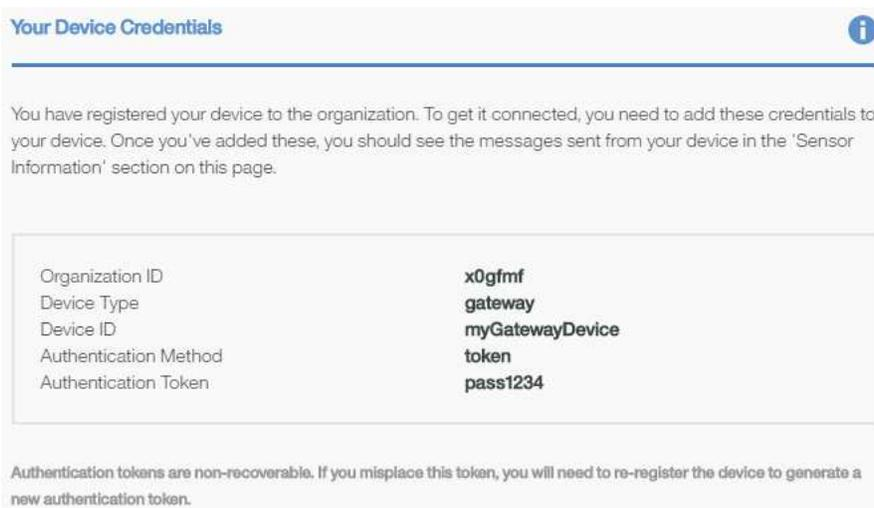

Figure 25. Gateway Device Credentials
13. Use the *Summary* view to verify the **Device ID** and **Authentication Token**. Use the **Back** button to edit any items. When you are finished, click **Add**. You should now see your device credentials, as shown in Figure 25.